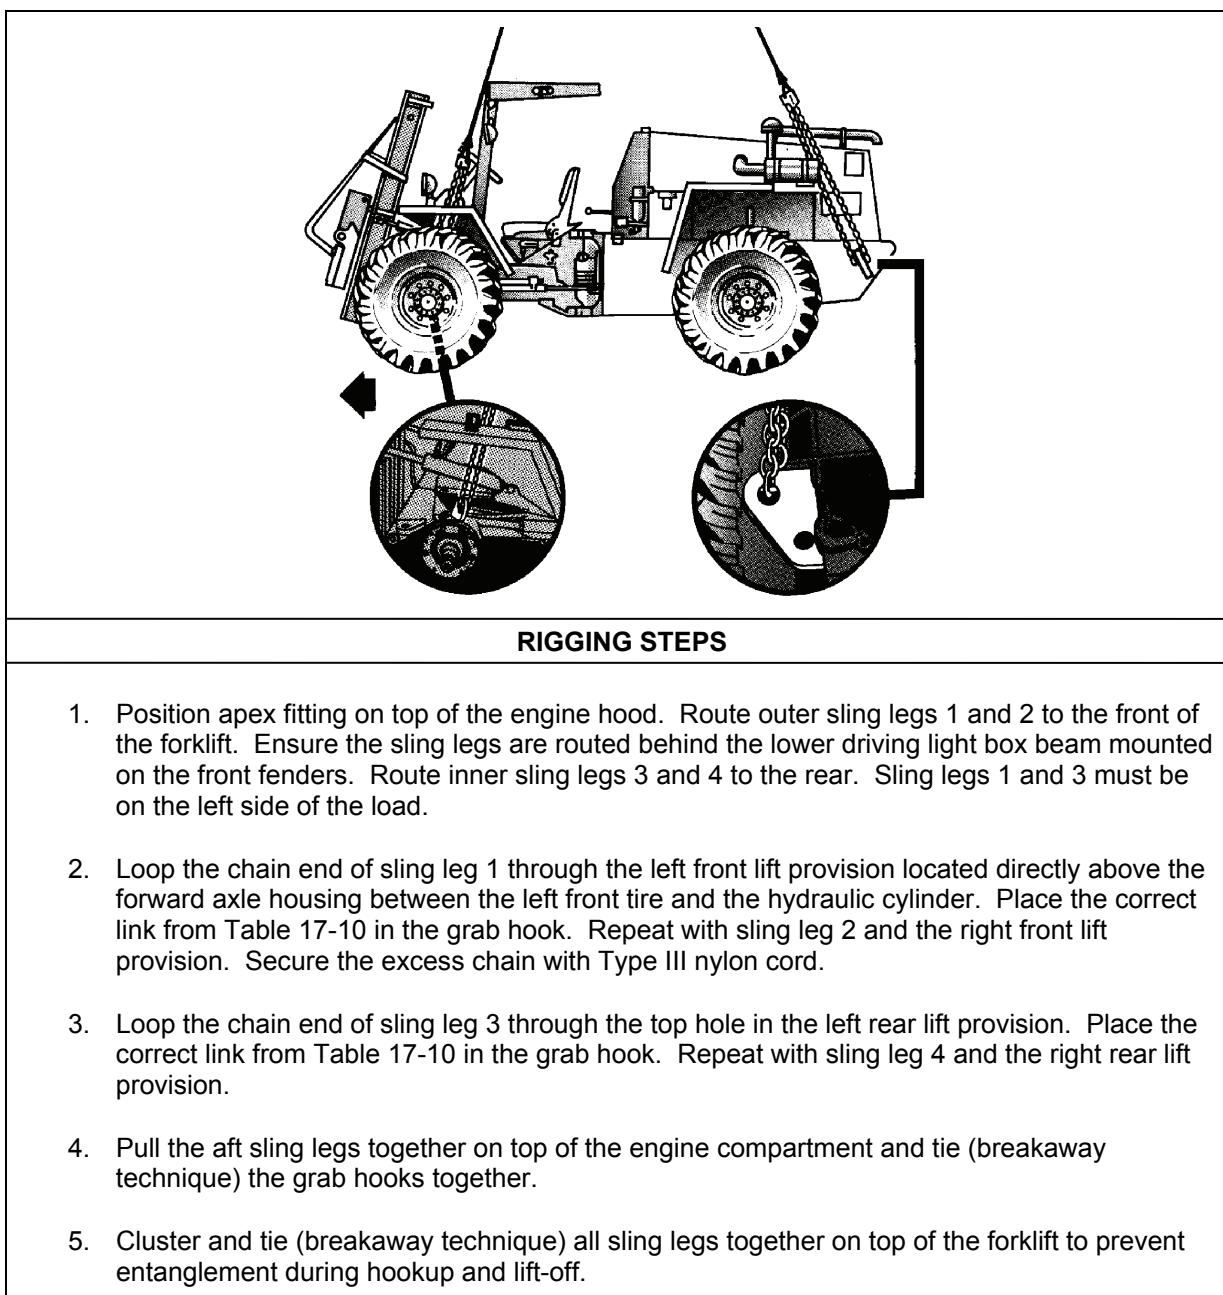

Figure 17-10. M4K 4000-Pound Forklift
- **Rigging.** Rig the load according to the steps in Figure 17-10.